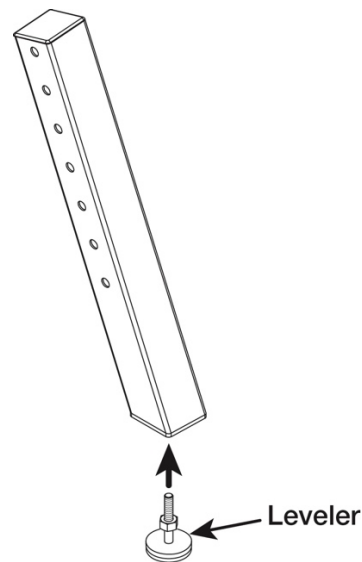

Figure 6-4
1. Screw levelers into the threaded mounting holes on the bottom of each leg (see Figure 6-4). Tighten hex nut against each leg to secure leveler position.